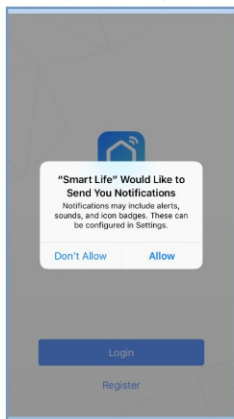

fig 2.1
- Open “Eco Pacific” application, click “Allow” on the pop up notification dialog(fig 2.1)